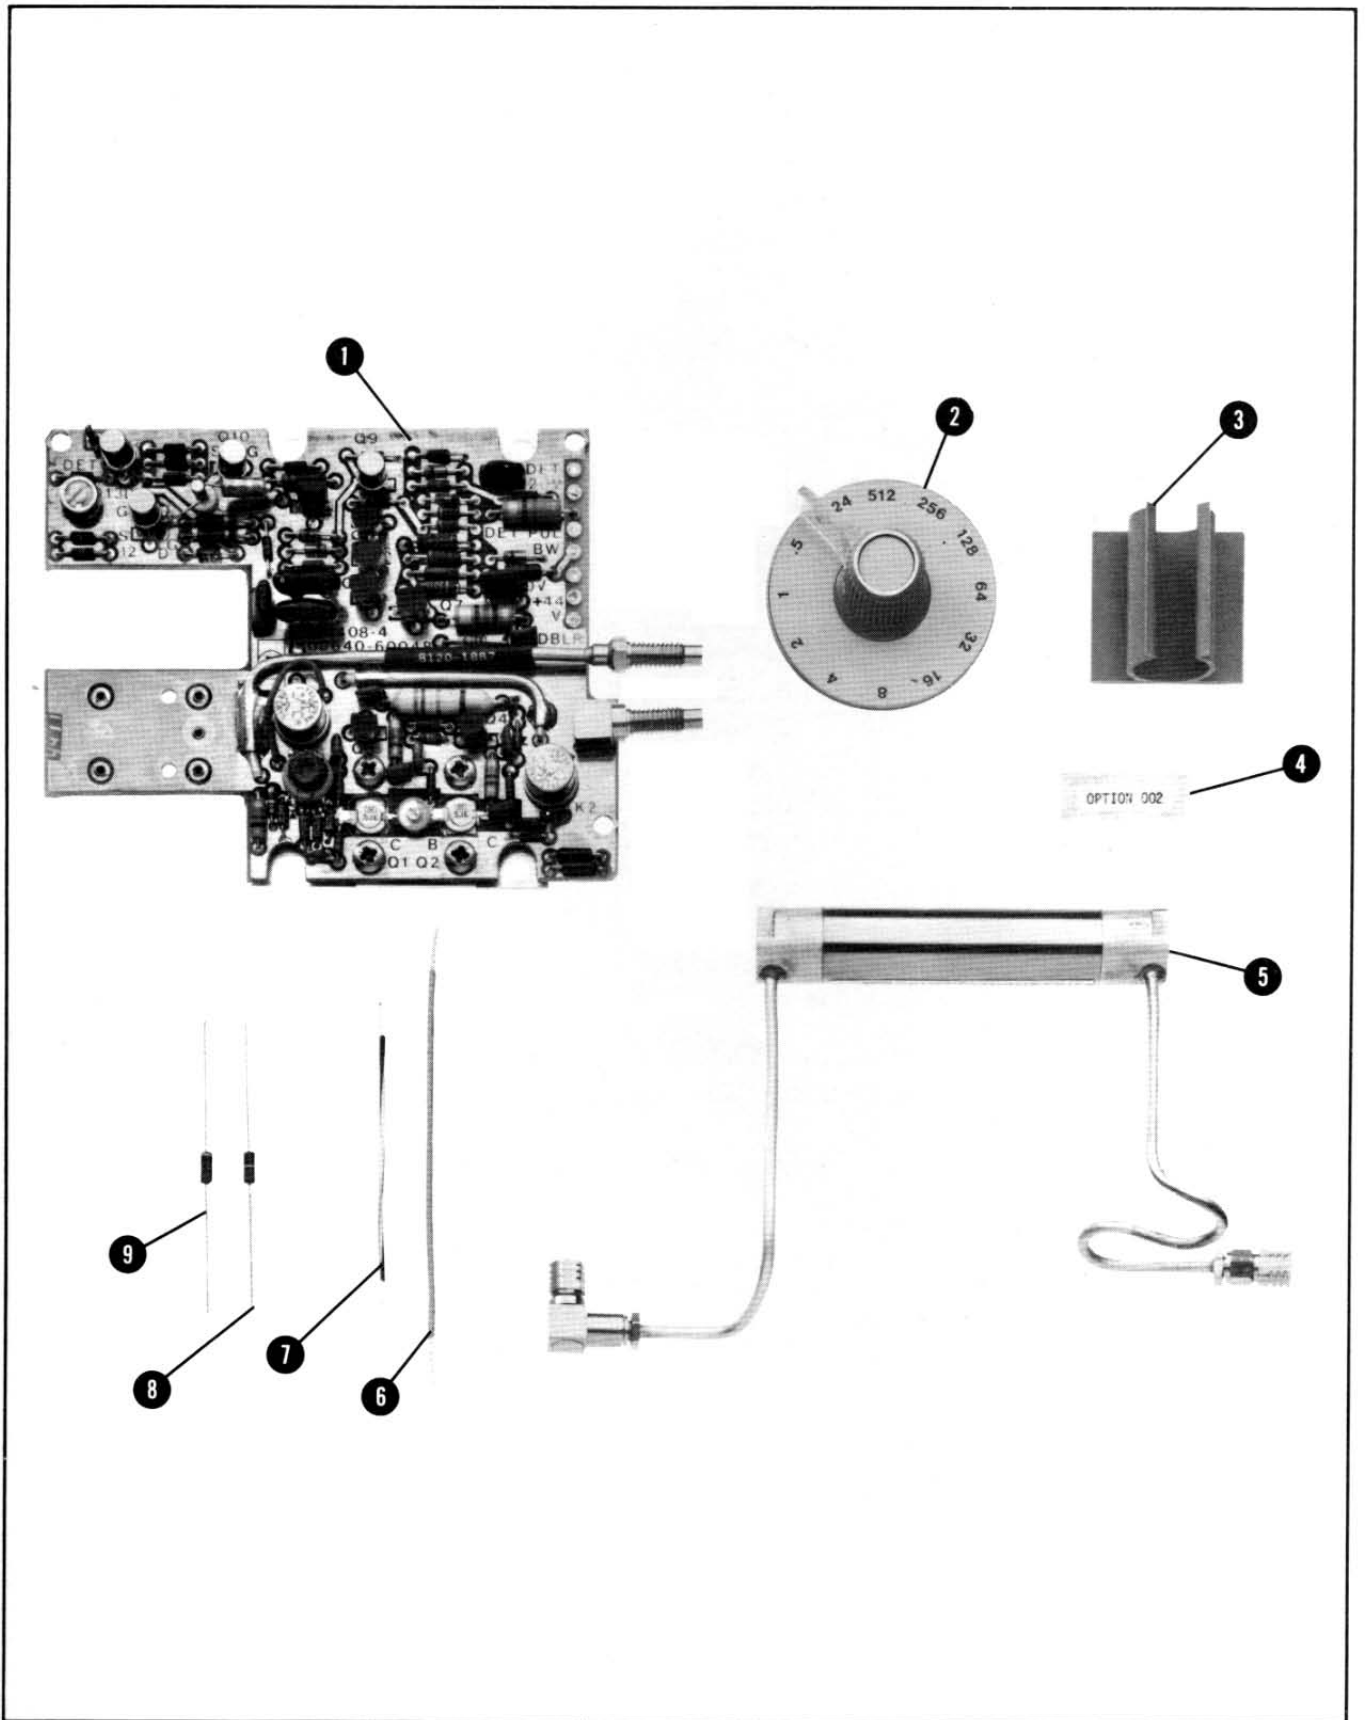

Figure 1. Model 11698A Internal Doubler Kit for 8640A/B
5. The contents of the doubler kit are shown in Figure 1 and listed in Table 1.
* Refer to Figure 1